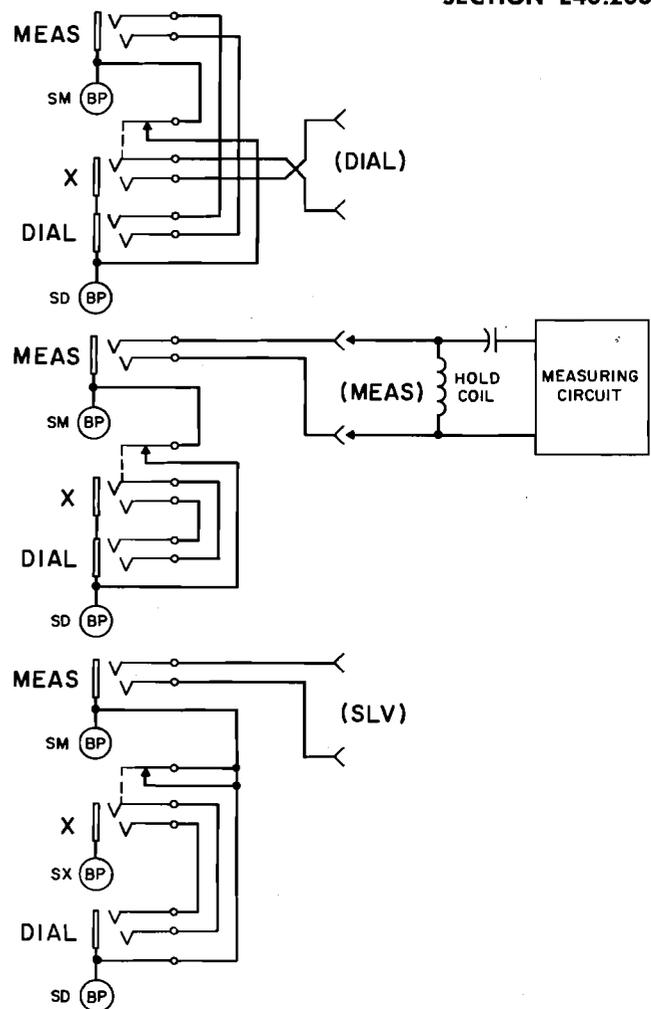

Fig. 3 – Schematic Circuit of the DIAL-MEAS-SLV Key
3.06 The circuit of the 23A set for the three positions of the DIAL-MEAS-SLV key is shown in schematic form in Fig. 3.